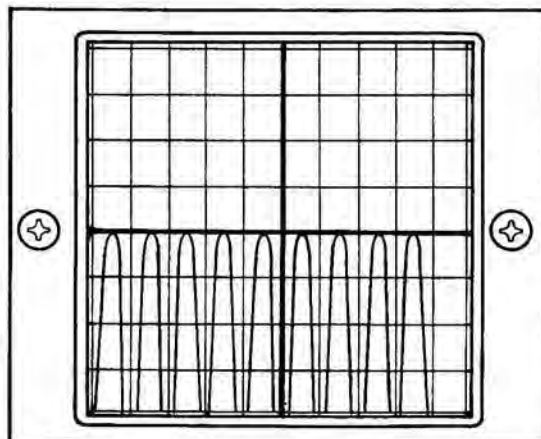

Figure 3-30 Positive Peaks of Displayed Sinewave Aligned With Major Horizontal Axis
13. Rotate DEV-VERT Control (33) to "1 V/DIV".
14. Adjust VERT Control (40) to align positive peaks of displayed sinewave with major horizontal axis (see Figure 3-30).